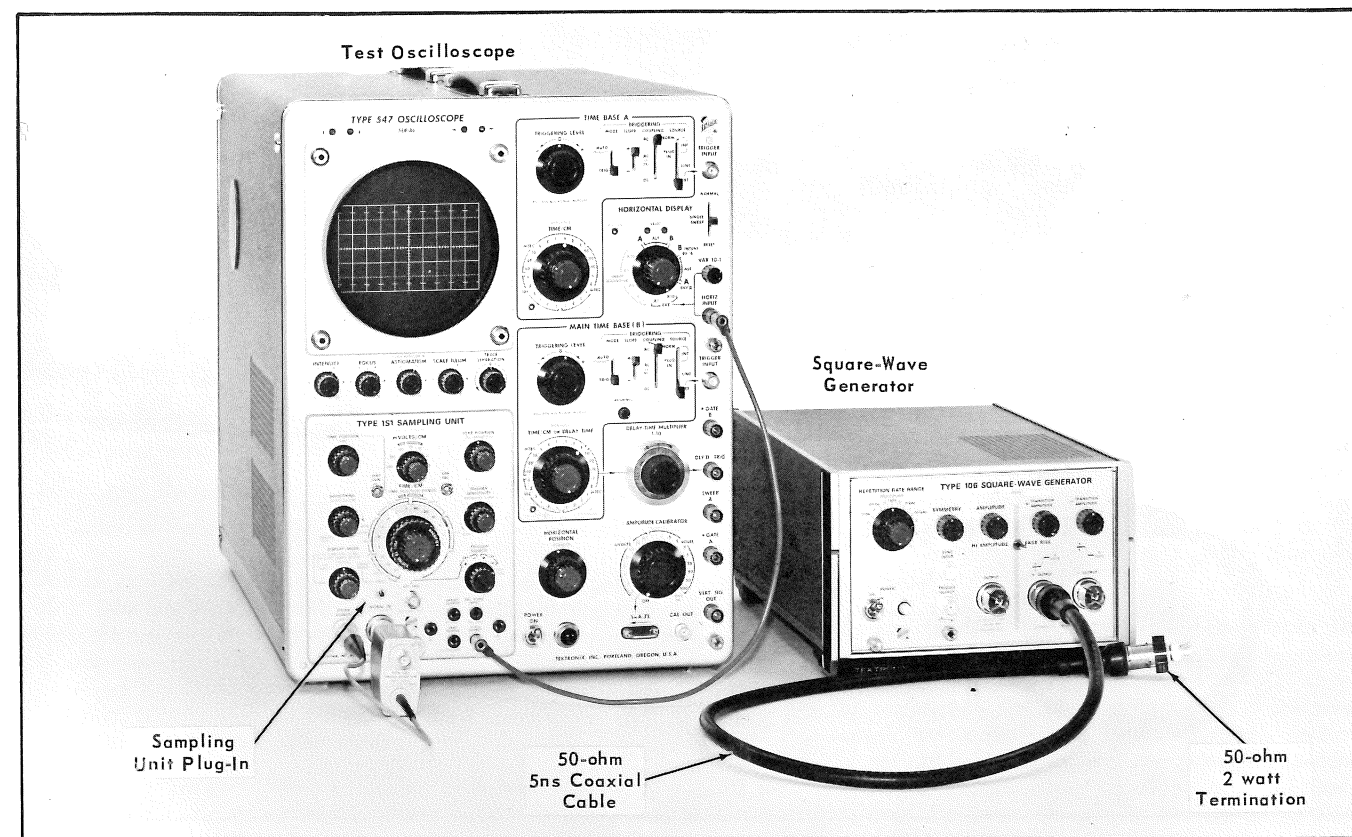

Fig. 5-2. Test equipment setup for calibration procedure.
- Test equipment is shown in Fig. 5-2.
- Test equipment set up is shown in Fig. 5-2.